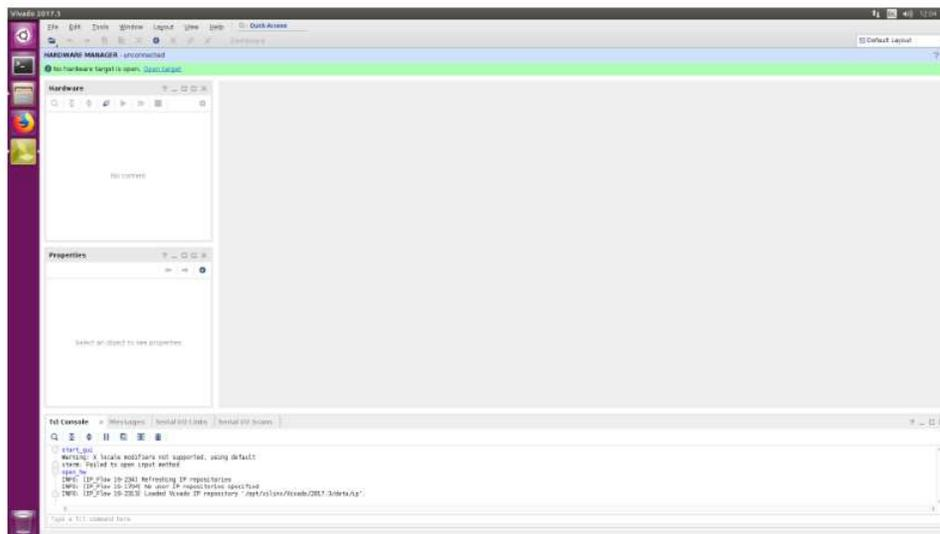

Figure 49: Open target [sc03]
5. The hardware manager opens and just below the top of the screen a green information bar shows the message “No hardware target is open”. Click “Open target” just behind this message (Figure 49, STMA-69252);